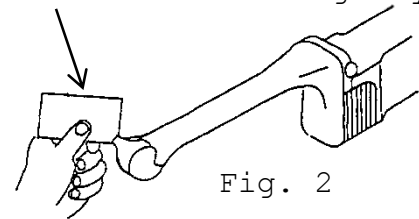

Fig. 2
- 4) Put proper quantity of sterilized acoustic jelly on the probe head as a couplant. (See Fig. 2.)